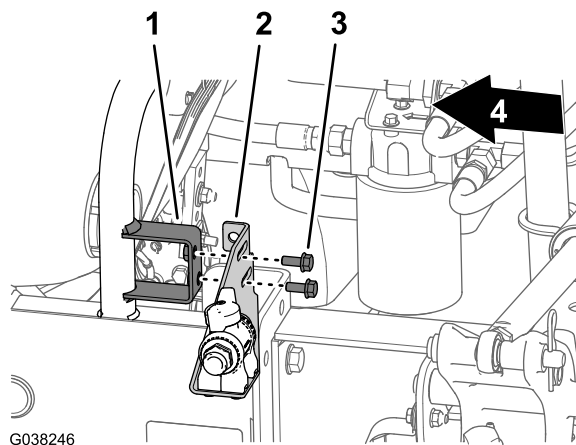

Figure 60
- Align the slots in the agitation-valve bracket with the holes in the mount for the throttle-valve bracket (Figure 60).
2. Assemble the agitation-valve bracket to the mount for the throttle-valve bracket (Figure 60) with 2 flange-head bolts (5/16 x 3/4 inch).